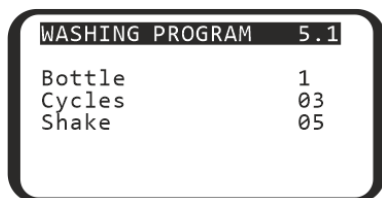
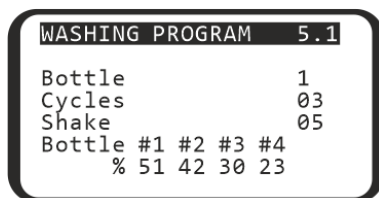

Figure 14. Running program
Figure 15. Running with 4CHW Logger
5.10.1. During operation, display (figure 14) shows the program number (**5.1**), number of the bottle in use (**1**), the current cycle (**03**) and the current timed action (**Shake .. 05**).
5.10.2. If **4 CHW Logger**, the 4-channel washing solution weight logger is connected to the unit, then in addition to values on figure 14, display shows percentage of the remaining volume of liquid in the bottles (figure 15). For the waste bottle #4, percentage values will be increasing.